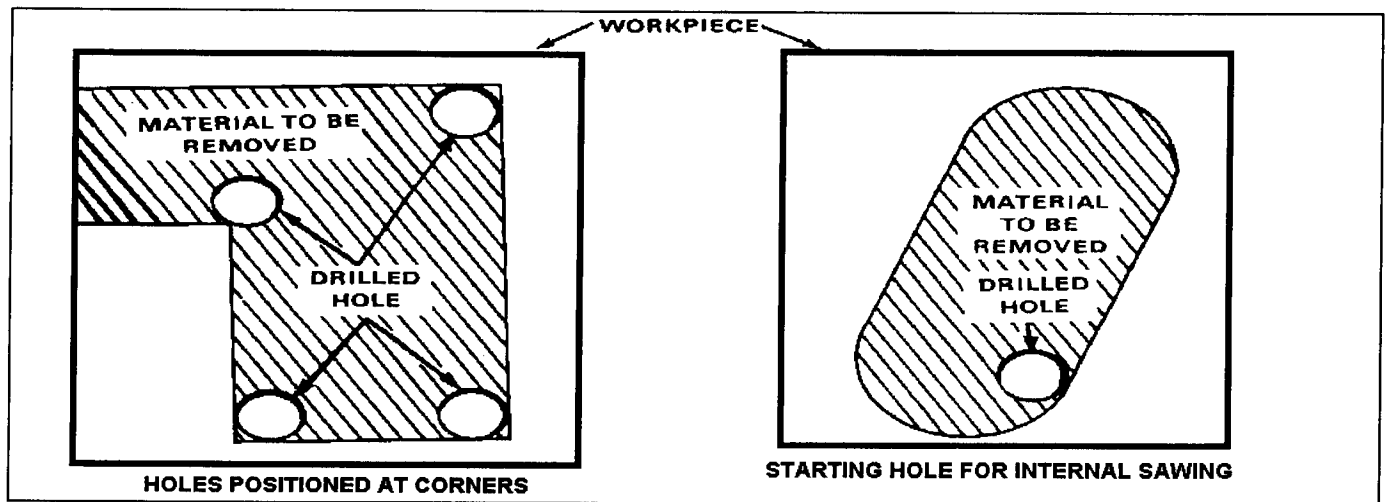

Figure 6-15. Hole layout for contour sawing.
- If an internal section is to be removed from the stock and the edge must remain unbroken, layout and drill a starting hole (Figure 6-15) using a drill larger in diameter than the width of the band saw blade. The bandsaw blade will be inserted through this hole before being welded into a band and installed on a bandsawing machine.